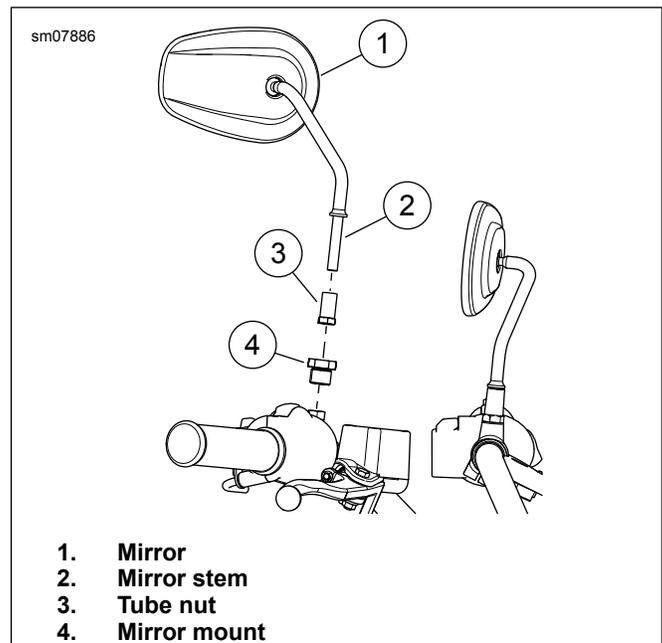

Figure 2. Mirror
1. Figure 2 Remove mirror.
- a. Remove mirror (1).
- b. Remove tube nut (3).
- c. Remove mirror mount (4).
1. Figure 2 Install mirror.
- a. Install mirror mount (4). Tighten.